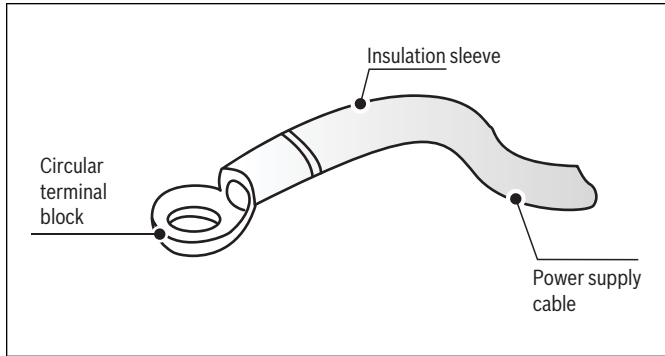
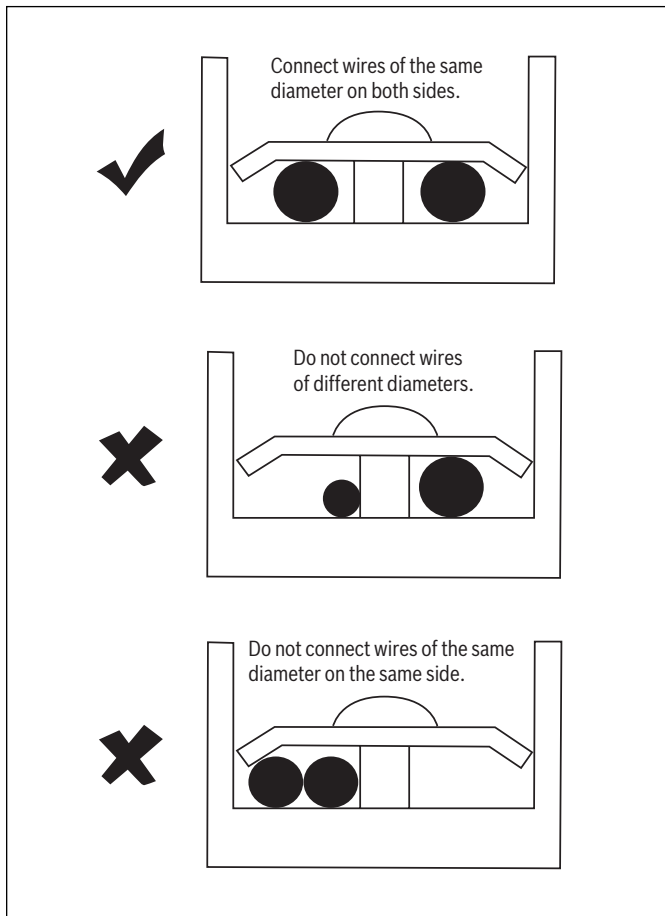

Figure 61
Figure 62
- Strip the power wire and crimp an insulated ring wire connector. Ensure the crimp is secure (see Figure 61). If unable to crimp due to field constraints, connect the power supply cables to the CN1 terminal block. When connecting the cables to the terminal, ensure the diameter of each strand is equal on either side of the individual screw terminal. Refer to Figure 62 for an example.